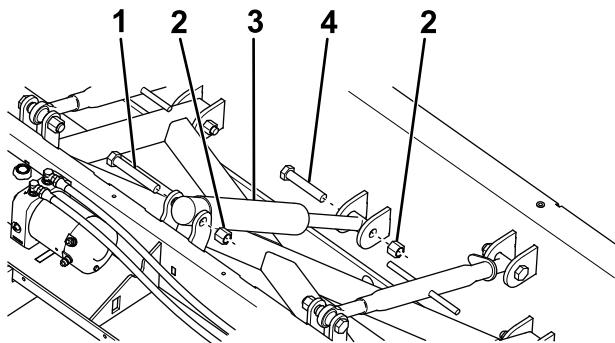

Figure 8
- Loosely attach the lift cylinder to the center bracket on the center blade using a bolt (3/4 x 4 inches) and locknut as shown in Figure 8.
- Loosely attach the other end of the lift cylinder to the center bracket on the coupler assembly using a bolt (3/4 x 4-3/4 inches) and locknut (Figure 8).